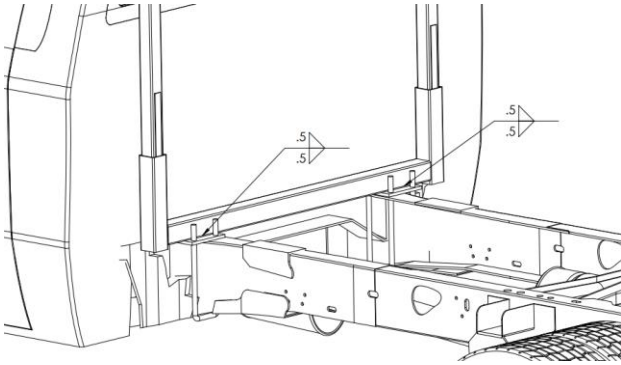
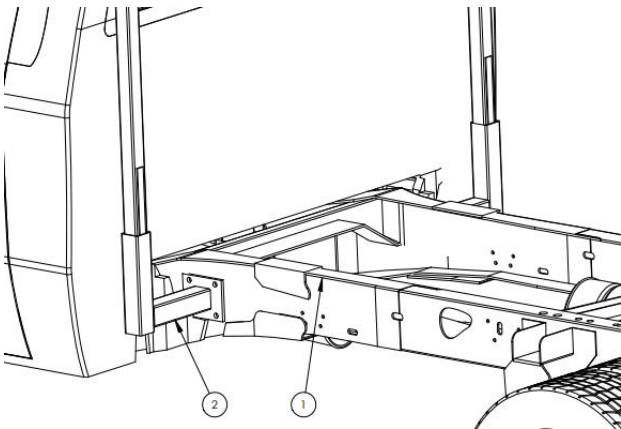

Figure 2.5
Figure 2.6
With the legs welded into the base tube, finish mounting it to the mounting brackets. Center width-wise and maintain 1" clearance between cab. Weld in place, Figure 2.5. For split frame brackets, bolt base tube bracket (2) to frame rail (1) through holes drilled in the previous step, Figure 2.6.